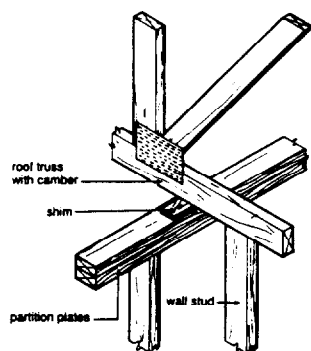

Figure 3. For roof trusses fabricated with a camber, insert shims under bottom chords to prevent pulling out camber.
- Recommended practice is to install thin shims or spacer blocks under the trusses to prevent pulling out the camber, Figure 3.